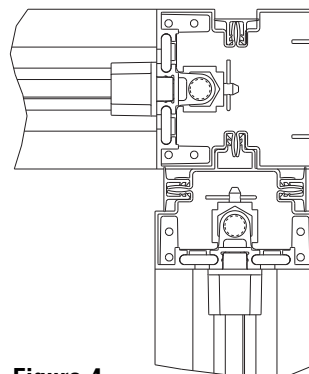
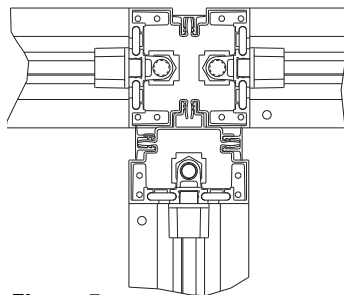

Figure 4
Figure 5
1. Building module connectors are used for making building module corners (Figure 4) and building module 3-way connections (Figure 5).